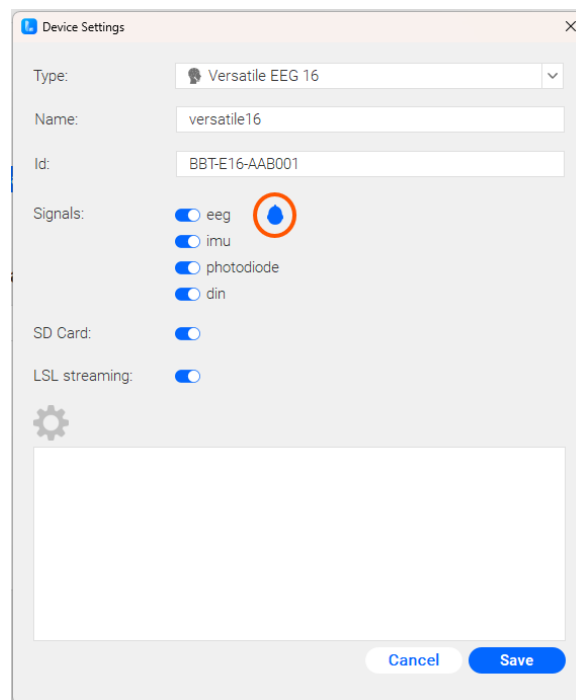
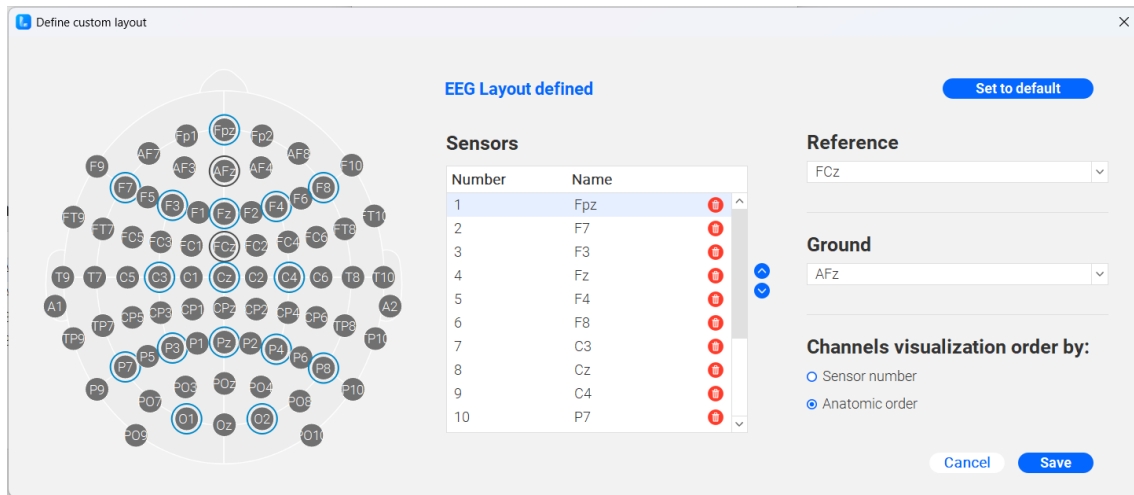

Figure 15. Device Settings window for Versatile and Versatile Plus EEG devices
Figure 16. Custom layout definition window in Versatile and Versatile Plus EEG devices
In the **water-based EEG devices** (Versatile 8, 16, 32, 64ch; Versatile Kids 16, 32ch and Versatile Plus 16, 32ch) an icon with the figure of a head will appear next to the “EEG” signal button, as indicated in Figure 15.
Clicking the blue head icon (circled in Figure 15) opens a window titled "Define custom layout" (Figure 16) that contains several interactive components:
- The blue up and down arrows next to the sensors' list (see Figure 16) can be used to move the names to occupy the corresponding position set in the cap.
- The blue "Set to default" button seen in the top right corner of Figure 16, allows the user to directly set the default parameters for the sensors' layout and the channels visualization order.
- The reference and ground sensors that appear in the right side of the window seen in Figure 16, cannot be changed, except in the Versatile Kids, where the reference sensor can be reassigned using the dropdown menu.